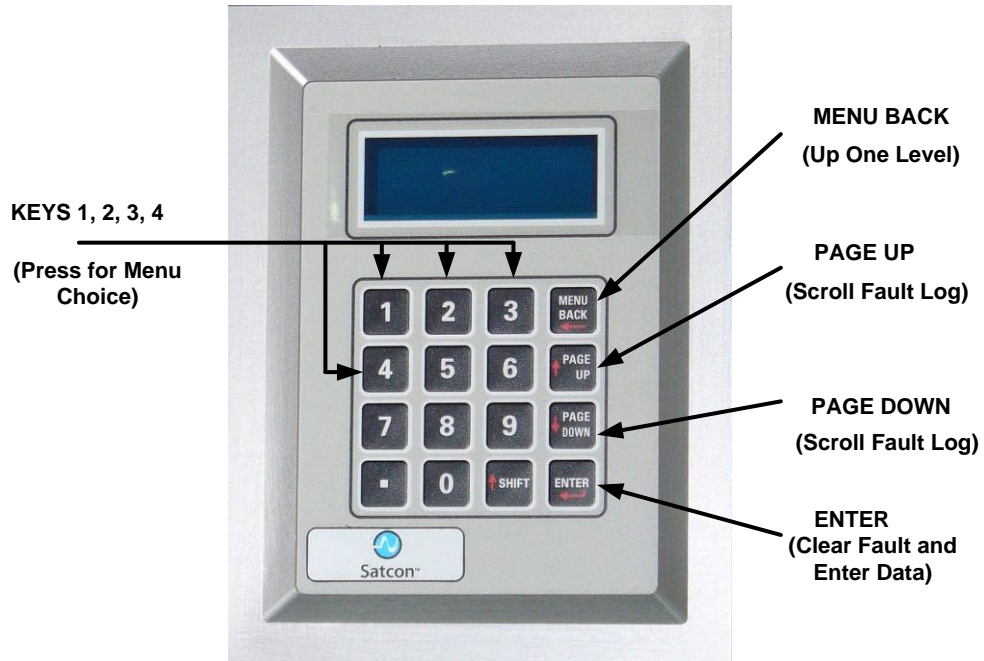

Figure 30 Using Keypad
The following information explains how to use the key pad to navigate through the menus, enter data, view faults and clear faults. Refer also to Figure 30.
- Use keys 1 through 4 on keypad to move to lower levels. Refer to Figure 30.
- Press MENU BACK on key pad. Refer to Figure 30.